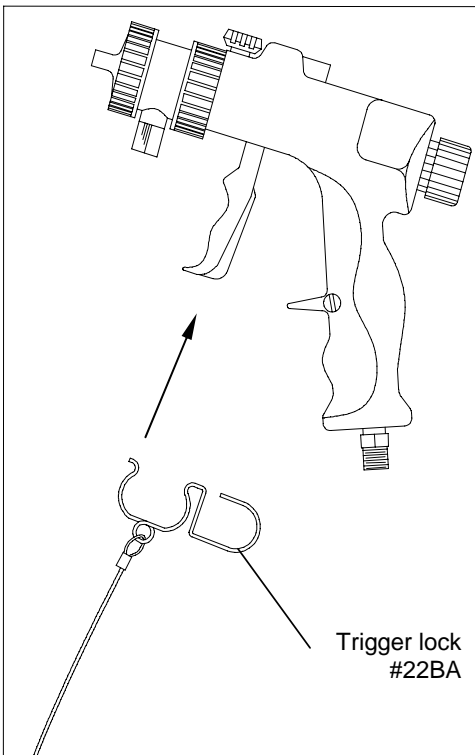

Figure 1
4. Lock the gun trigger in the open position by placing the trigger lock around the gun handle and trigger (see Fig. 1).